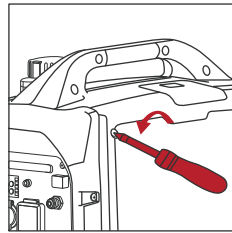

Fig.5
- 2 Loosen the four screws and remove the maintenance cover (see Fig.5).